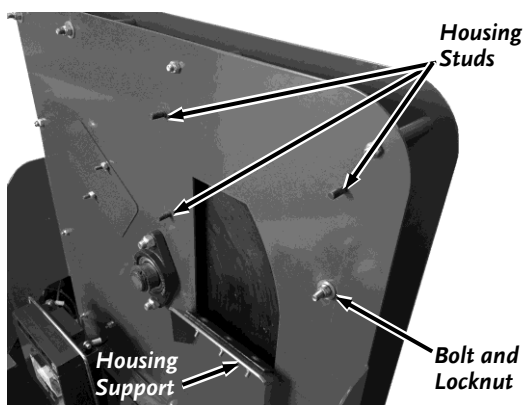

Figure 7b: Pro XL-575
1. Remove and discard the Shipping Nut from the Housing Bolt, but leave the Housing Bolt in place (**Figure 7b**).